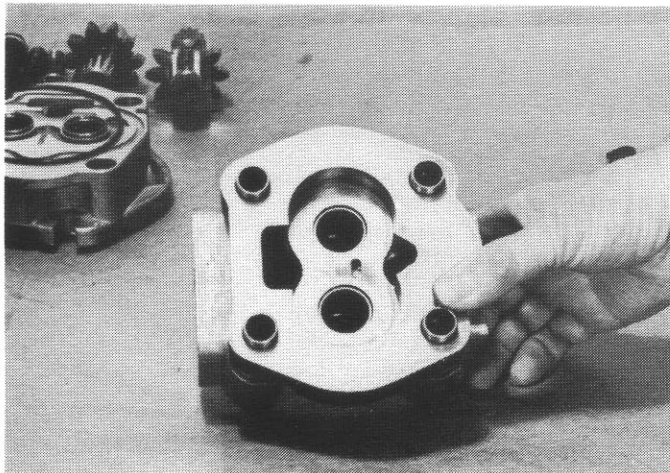

Fig. 17
21. Install o-ring (7) in pressure plate (8). With trap (small oblong hole) in pressure plate toward discharge side of gear plate and bronze side up, slide pressure plate down gear bores. (Fig. 17)